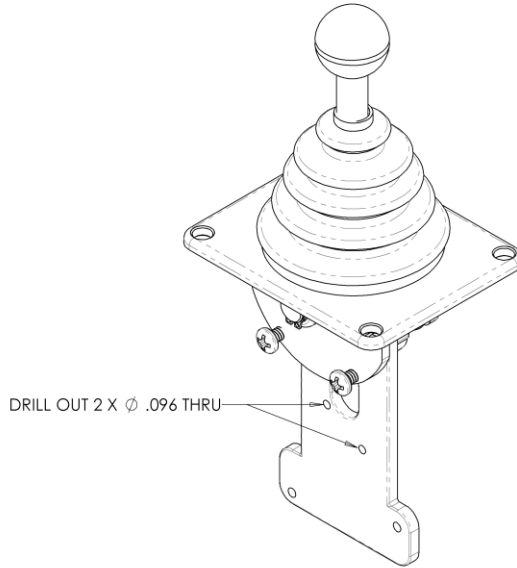

Figure 16: Diagram showing holes to be drilled out for new microswitch bracket.
5. Refer to Figure 16, drill out the two threaded holes that were used to secure the old microswitches with a No.41(.096") or 3/32(0.0937") drill bit.